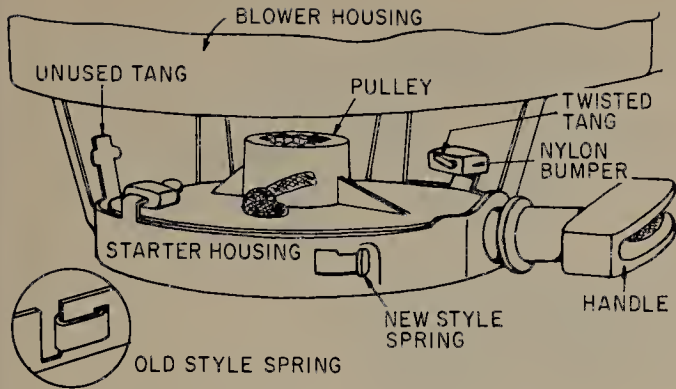

FIGURE 12.30 Typical rope-rewind starter. (Briggs and Stratton Corporation.)
12.6 Briggs and Stratton Rope-rewind Starters. Figures 12.30 to 12.32 show different rope-rewind starters used on Briggs and Stratton small engines. To replace the spring, first cut the rope at the starter pulley to remove the rope. Then, grasp the outer end of the spring with pliers, as shown in Fig. 12.33, and pull the spring out as far as possible. Next, bend one of the bumper tangs up and lift out the starter pulley so you can disconnect the spring.